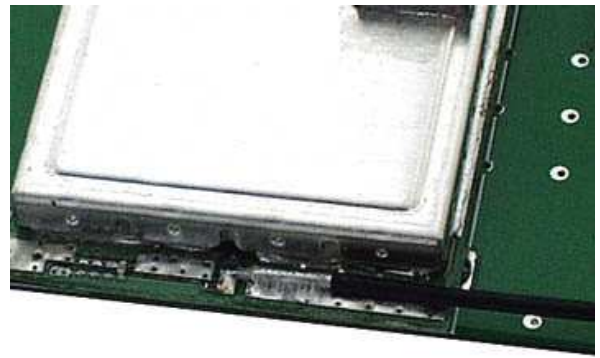

Figure 8, Coax Installation
- 5.4 Do not use the SMA-RP connector when installing dpcav.com's #AWM5.8ANT economy patch antenna (available separately). Instead, directly solder the coax to the RF port. See Figure 8.